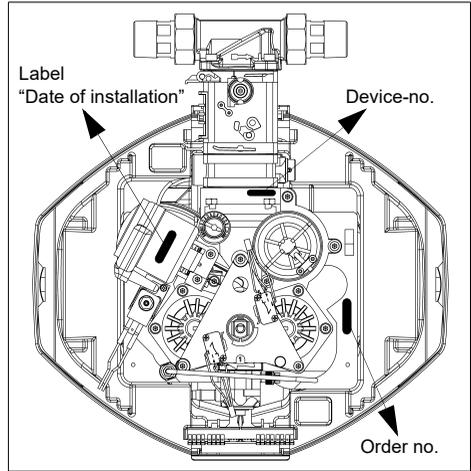

Fig. 9: Device and order no. plus Label "Date of installation"
- Enter the date of installation on the label (see fig. 9).